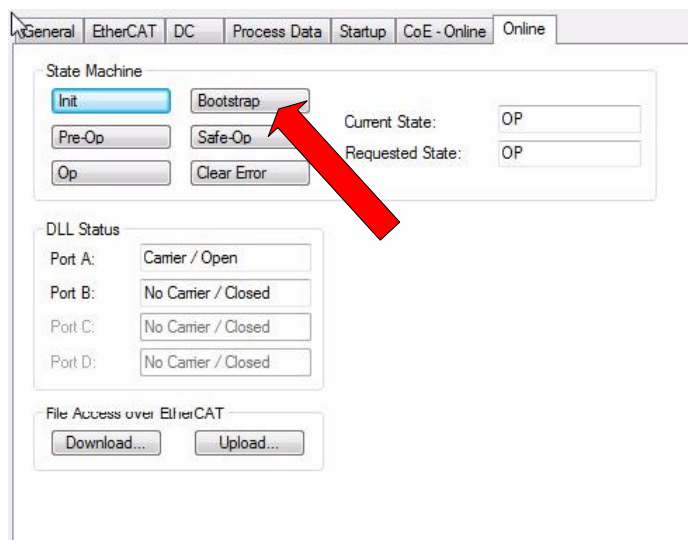

Figure 1
- For this, according to Figure 1, the button “Bootstrap” in the tab “Online” must be activated.